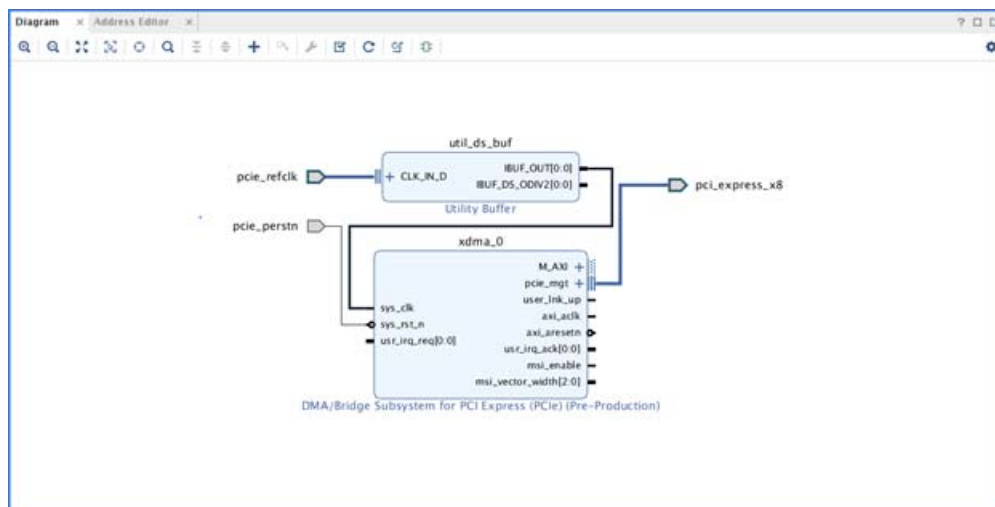

Figure 5-9: IP Level Block Automation
- **IP Level:** When you select IP level automation, the Block Automation inserts the utility buffer for the `sys_clk` input, connects the `sys_rst_n` input and `pcie_mgt` output interface for the XDMA IP, as shown in Figure 5-9.